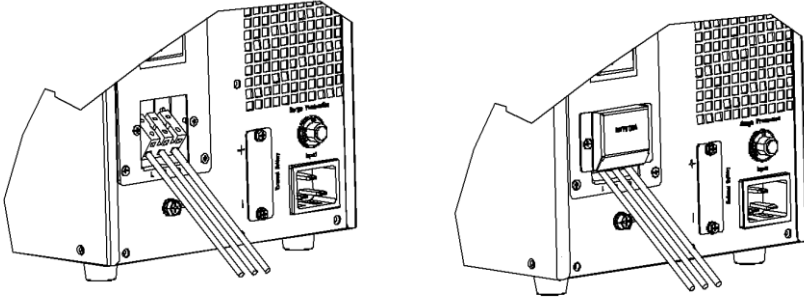

Figure 4 Output terminal of 3K
**Except from using socket as output, 3KS/L has output terminal as well for load which current is over 10A. As shown in Figure 4:*